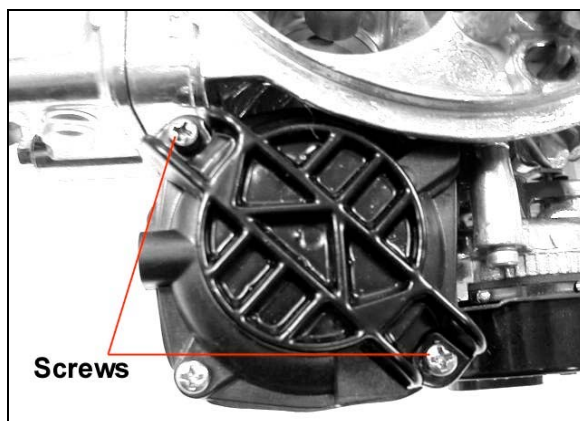

Figure 16
8. Tighten the two Phillips screws securely and reinstall the air cleaner, as shown in Figure 16.